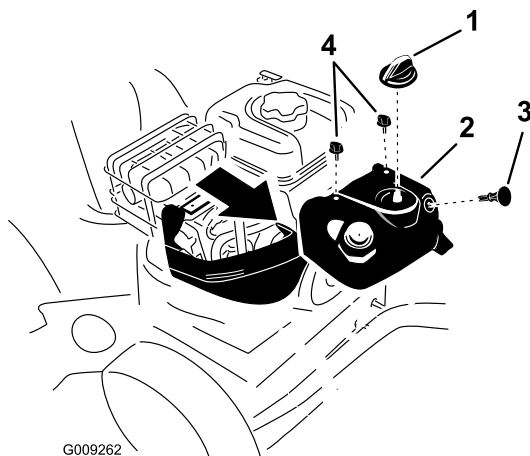

Figure 46
Note: To access the spark plug, you must first remove the upper snow hood (Figure 46).
1. Remove the choke knob and the ignition key (Figure 46).
2. Remove the 2 screws that secure the upper snow hood to the snowthrower (Figure 46).